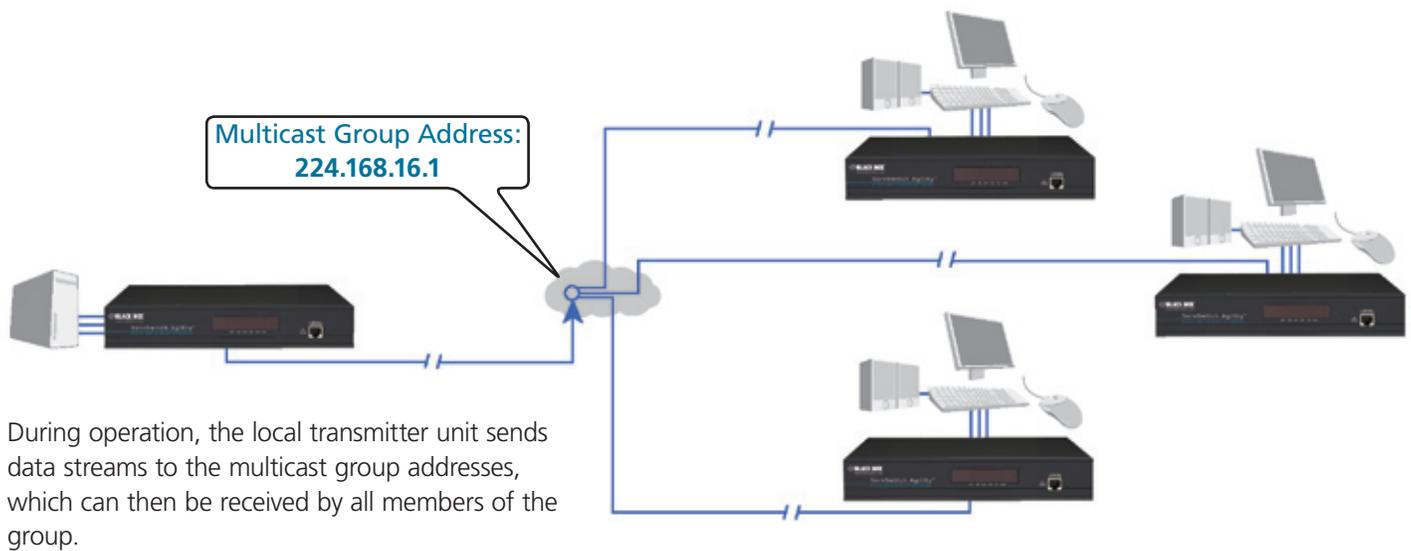

Figure 4-10. Multicast operation representation.
- Next, enter an appropriate Multicast Address for the Video/Audio data stream(s). The set of IP addresses between 224.0.0.0 and 239.255.255.255 are specifically reserved for multicast operations. Within a private enterprise network, you merely need to choose a location that is currently unused. However, if your link will pass through public networks, then attention must be given to finding an address within these limits that is not already reserved for special use. The IANA (Internet Assigned Numbers Authority) website: iana.org provides a list of publically reserved addresses. See Figure 4-10.